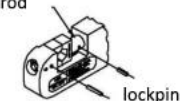

Figure 4
- (1). Install the die on the crimp tool handle.
- (2). After installing the die, force the locking pin into the hole and keep it flush.
- The long locking pin is inserted into the tool frame and the short locking pin is inserted into the push rod (see Figure 4).
Before attempting to remove the dies from the tools, make sure that all the locking pins have been removed (See Figure 4). Otherwise, the tool may be seriously damaged.